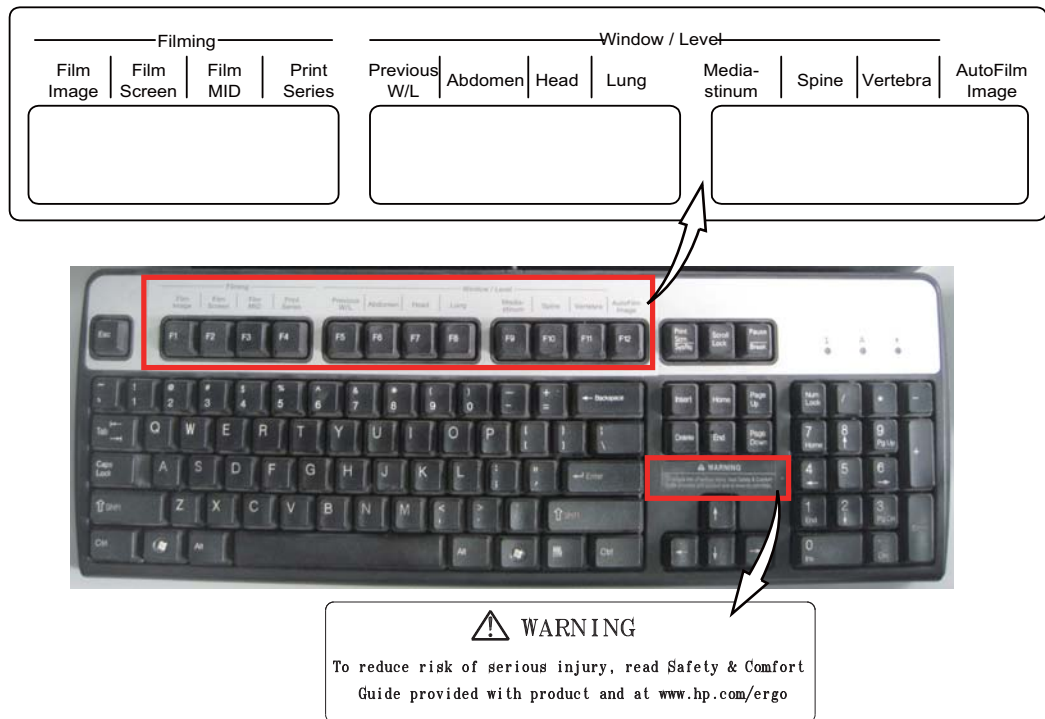

Figure 2-4 Keyboard with the English film and Warning Label Installed
- Select keyboard overlay from keyboard collector (5324605-XX) to attach. (See Figure 2-4)